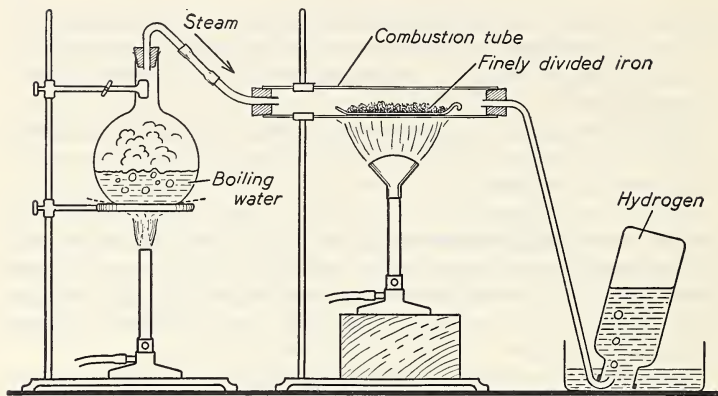

Fig. 33. Liberating hydrogen by the action of heated iron on steam.
1. Arrange the apparatus as shown in Figure 33, and heat the finely divided iron as intensely as possible while the steam is passing through